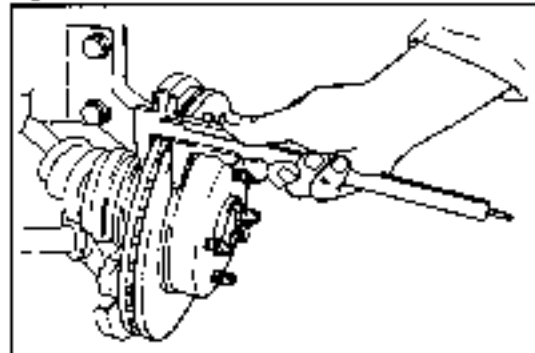

Fig. 8-98 WF-CB103
6. Check the front disc thickness. (See Fig. 8-98.)